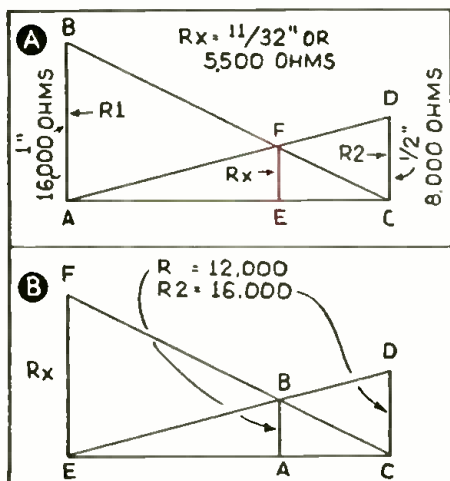

Fig. 1. Simple calculation of parallel resistance.
**L**AST month the writer described how this practical tube tester had been found to meet all the requirements of daily service work. As the schematic circuit, Fig. 1, shown in Part I indicates, the set-up may utilize certain existing types of equipment, and lends itself particularly well to shop use.